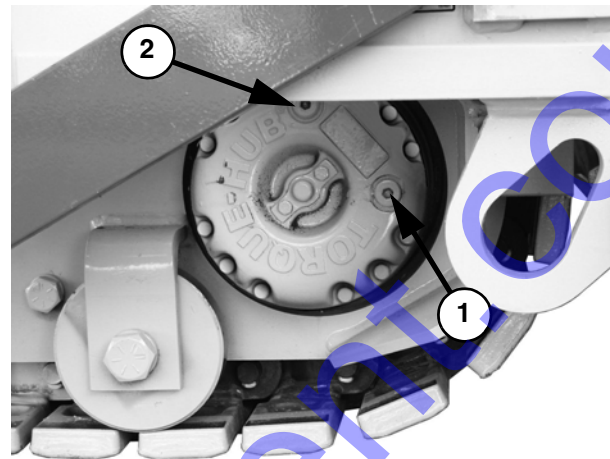

Fig. 43 - Fill and Check Plugs
- Remove the check plug (1, Fig. 43) at the 3 or 9 o'clock position. If oil appears, replace the plug. If oil does not appear, remove the fill plug (2) and add oil until it flows from the check plug.